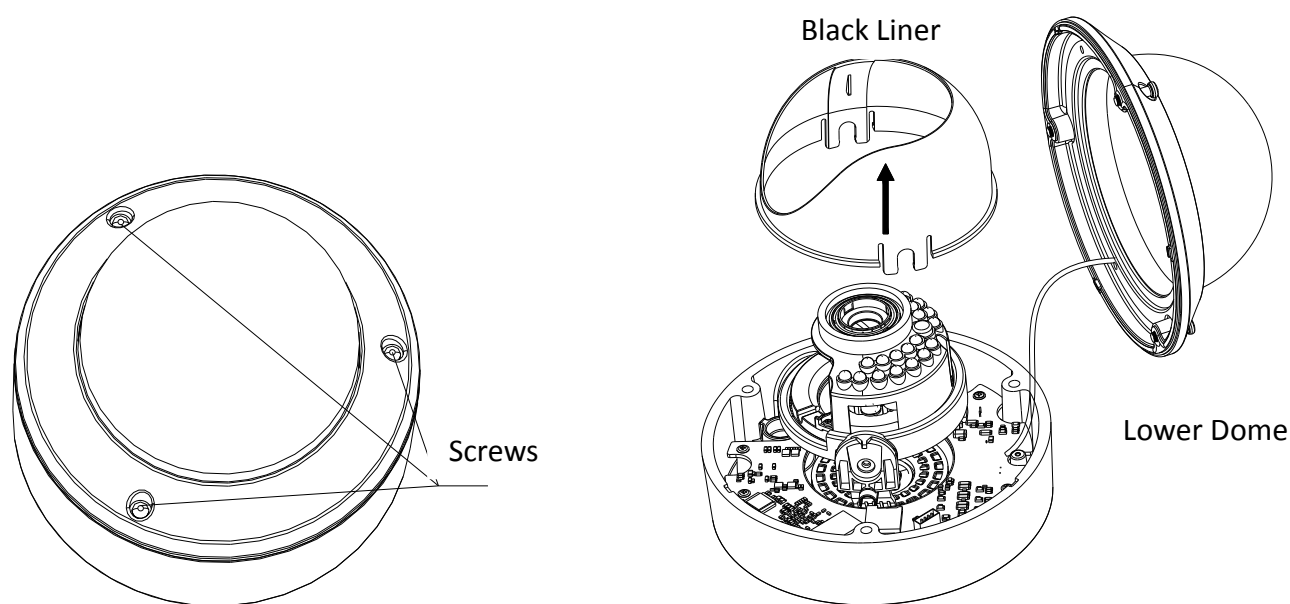

Figure 3-68 Remove the Lower Dome and Black Liner
2. Open the lower dome and remove the inner black liner as shown in Figure 3-68.